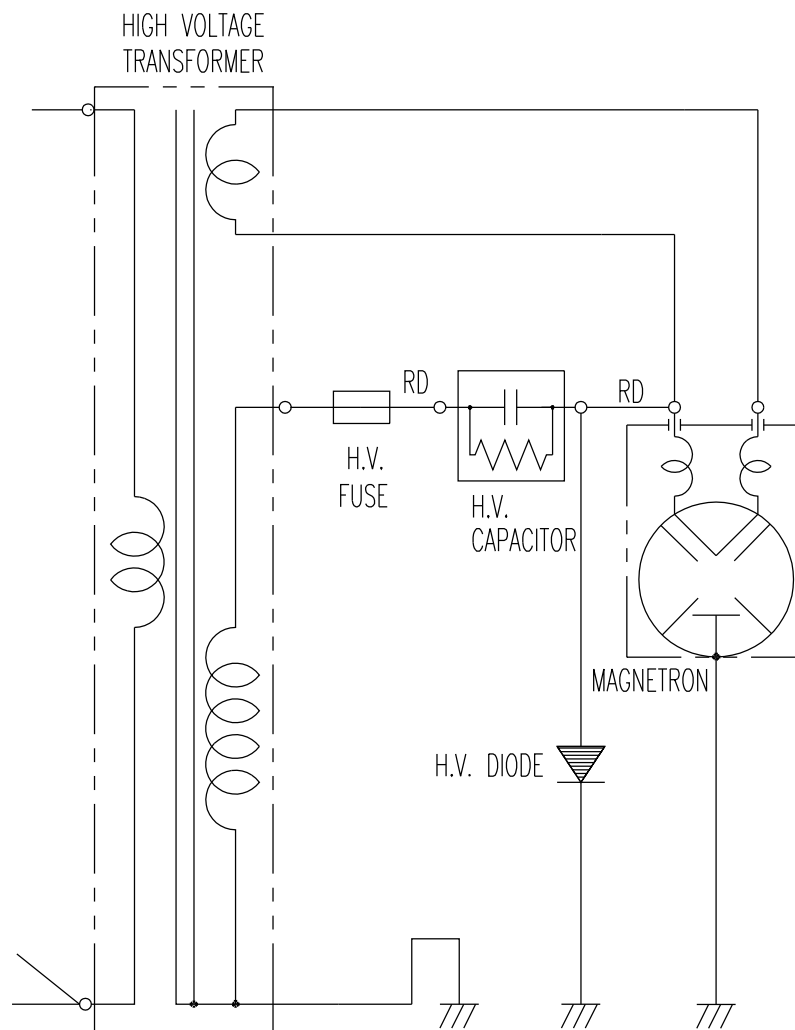

Fig. 2
- A high voltage of 2000 Volts AC is generated in the secondary of high voltage transformer and this secondary voltage is increased by the action of the diode and the charging of the high voltage capacitor. This resultant D.C voltage is then applied to the anode of the magnetron. As shown in Fig. 2 the first half cycle of the high voltage produces in the high voltage transformer secondary charges the high voltage capacitor. Current flow is in the direction of the dotted-line during the second half cycle, the voltage produced by the transformer secondary, and the charge of the high voltage capacitor are combined and applied to the magnetron as shown by the solid line so that oscillations begins.